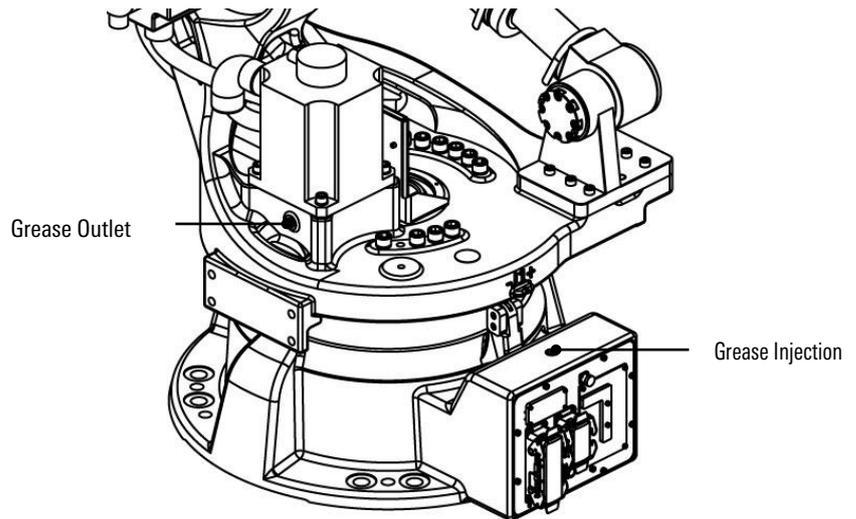

Figure 13-4 Replace the lubricating grease of J1 axis reducer13
- Remove the grease outlet M10x1 plug, as shown in Figure 13-4.